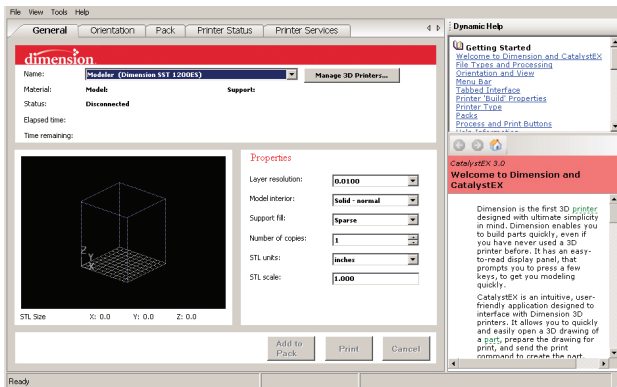

Figure 13: CatalystEX main window
2. Click on the CatalystEX icon  on the desktop of your PC. The CatalystEX main window opens (Figure 13 on page 40).